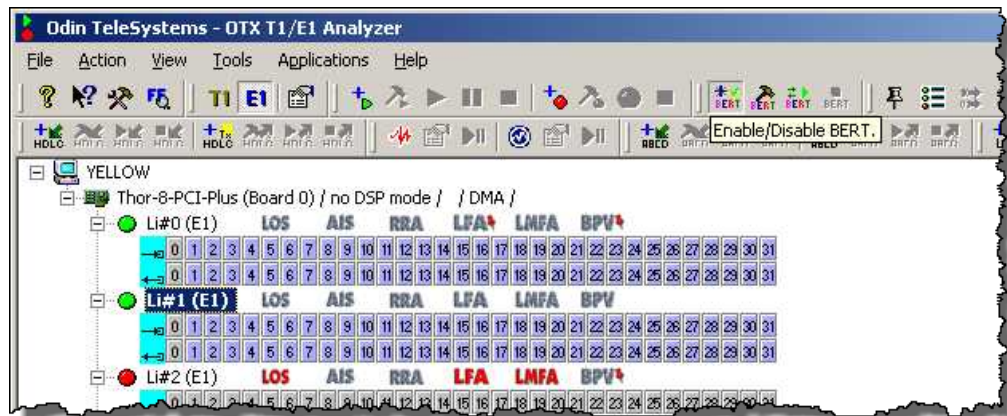

Figure 24 Enable BERT.
- If both LED indicators (to the left of Li0 and Li1 in our example) are colored green, you can perform BERT testing. To do this set the "Li#0 (E1)" as the scope of operations and press "+BERT" icon on the toolbar ("Enable/Disable BERT." prompt) (See Figure 24).